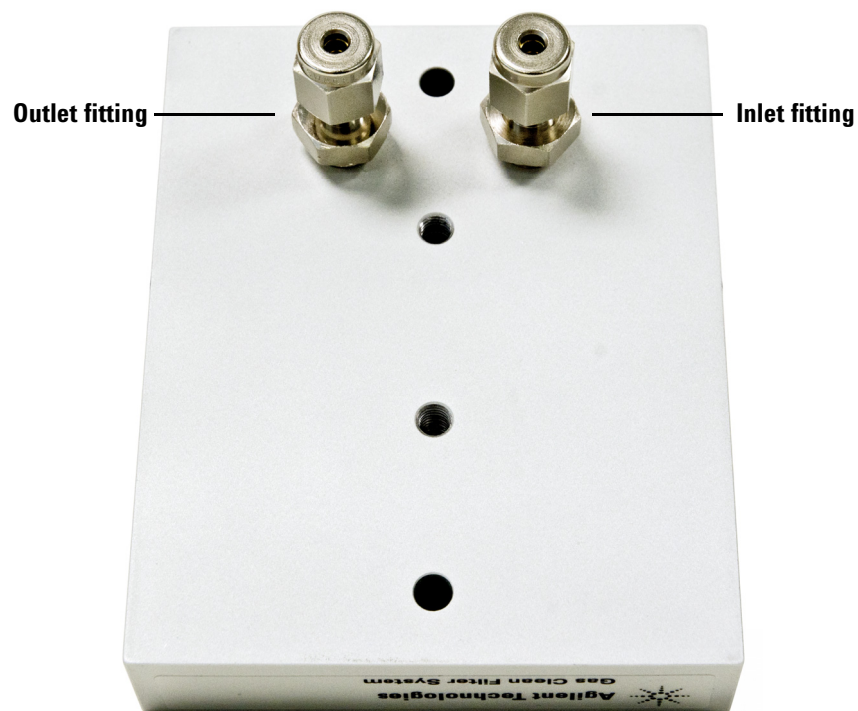

Figure 8. Inlet and outlet fittings installed on the underside of the connecting unit
- d** Install the inlet and outlet fittings on the underside of the connecting unit using a 1/2-inch wrench (**Figure 8**).